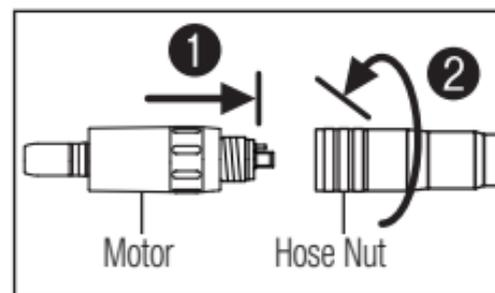

Fig. 2
- ① Insert the motor correctly into the hose connector and tighten the hose nut (Fig. 2).